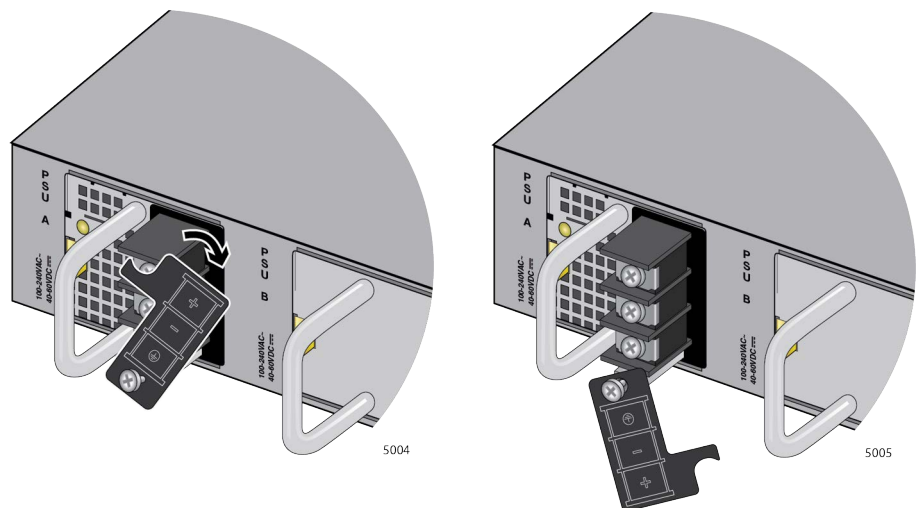

Figure 63. Accessing the Connectors
- Press the panel to the right to expose the connectors as shown in Figure 63.
1. Strip 6.5mm (0.25 in.) of insulation from the end of the stranded power wires with a wire insulator stripper. Refer to Figure 63.